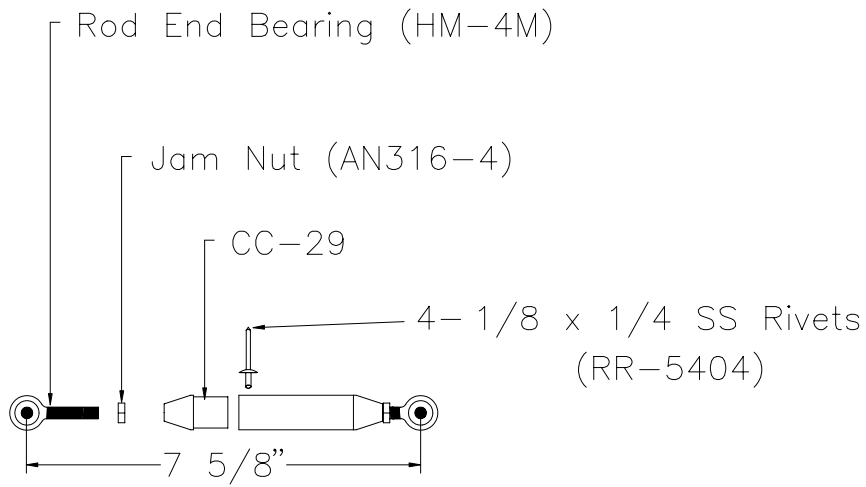

Figure 8.27.1
1) Make a push-pull tube (CC-82) from 3/4" x .035 tubing (CC-51) as in figure 8.27.1.